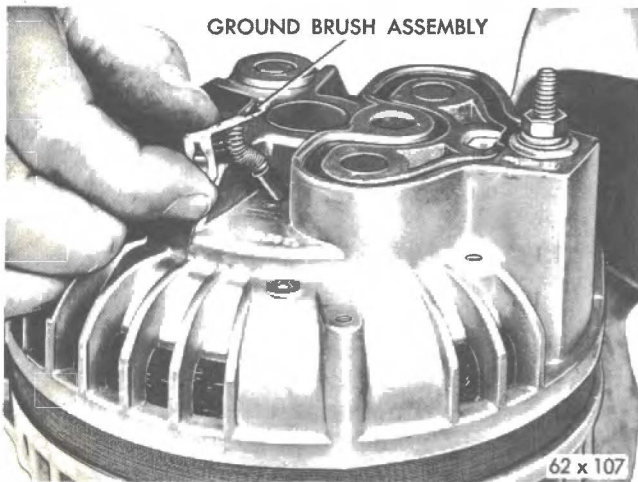

Fig. 21 - Removing or installing ground brush.
(2) The ground brush is positioned horizontally against the remaining slip ring and is retained in a holder that is integral with the end shield. Remove the retaining screw and lift the clip, spring and brush assembly from the end shield (Fig. 21).